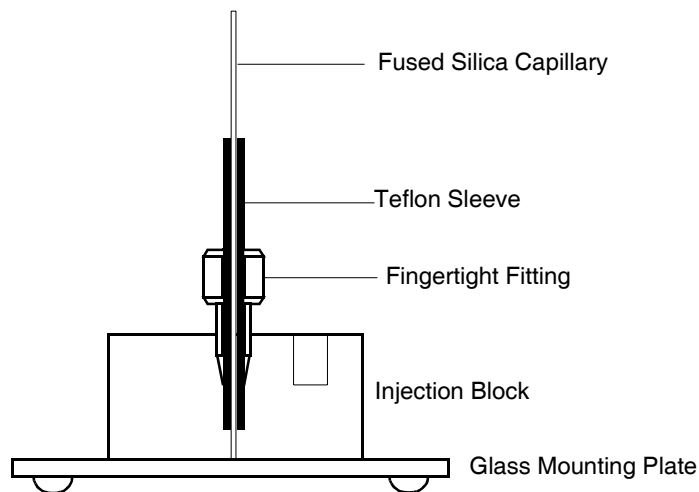

Figure 4-11 Mounting the Fused Silica Connector
1. Insert the fused silica capillary into the tightly fitting Teflon[®] sleeve (Figure 4-11).